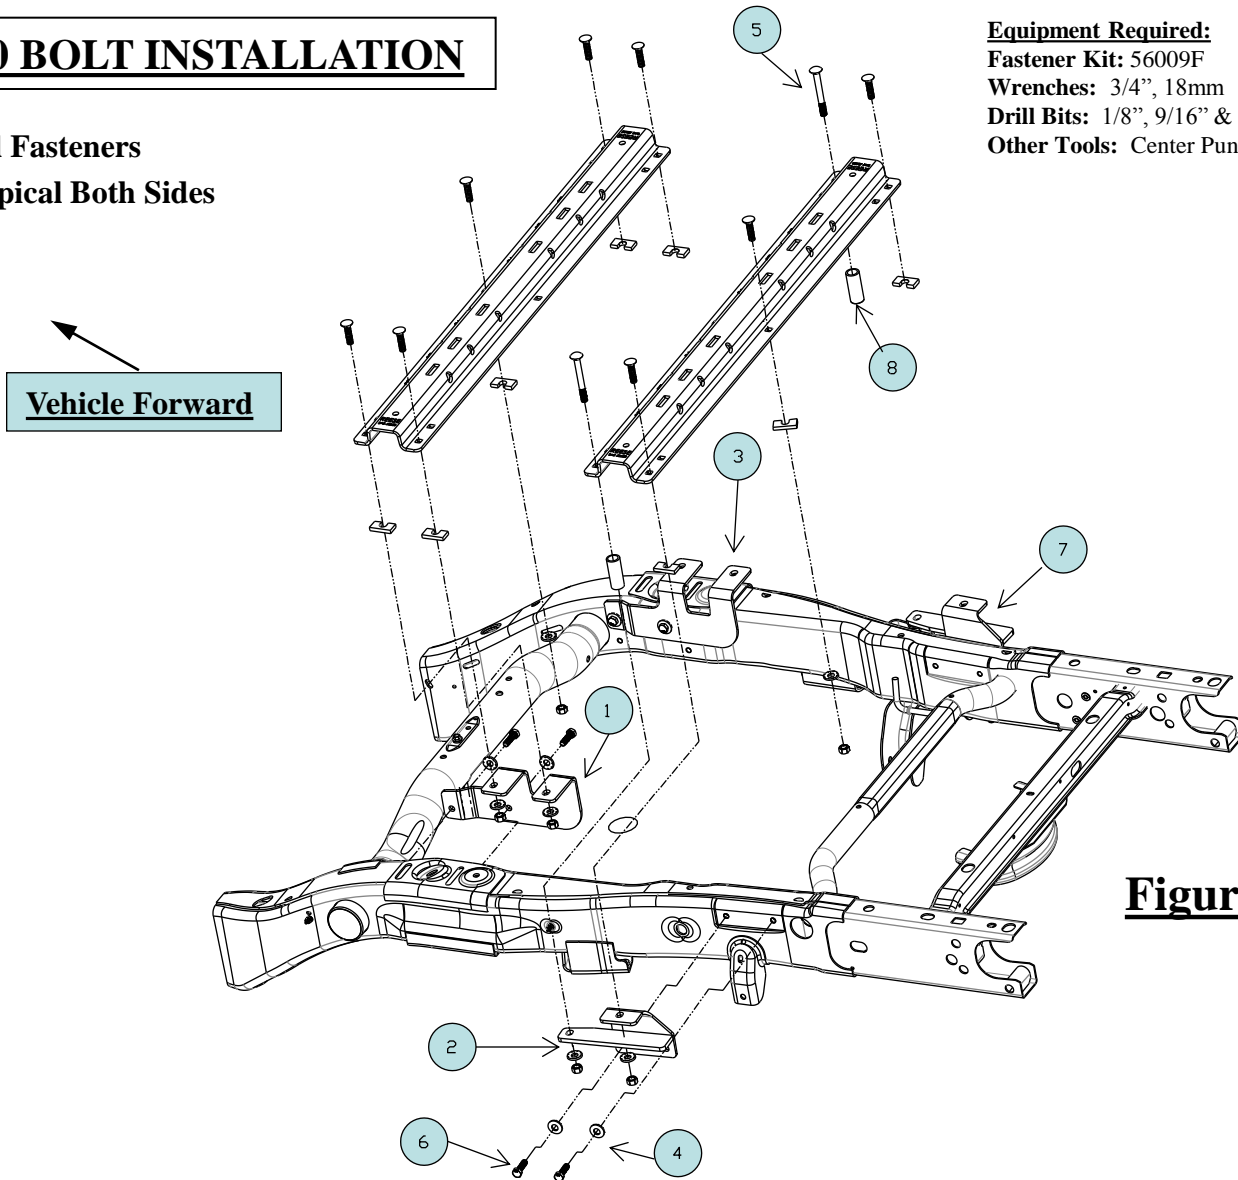

Figure 1
7. Loosely install the frame brackets by attaching the bolts (6), conical washers (4) and front (1) (3) and rear brackets (2) (7). (See Figure 1)